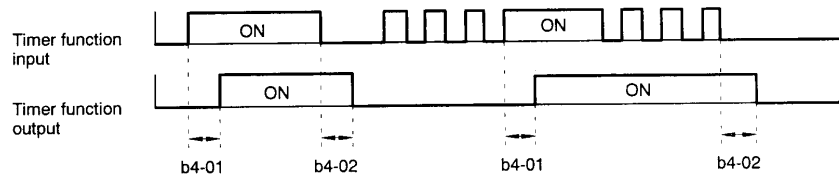

Figure 7.20 Operation Example of Timer Function
- When the timer function input OFF time is longer than the value set for b4-02 (timer function OFF-delay time), the timer function output turns OFF. An operation example of the timer function is shown in *Figure 7.20*.